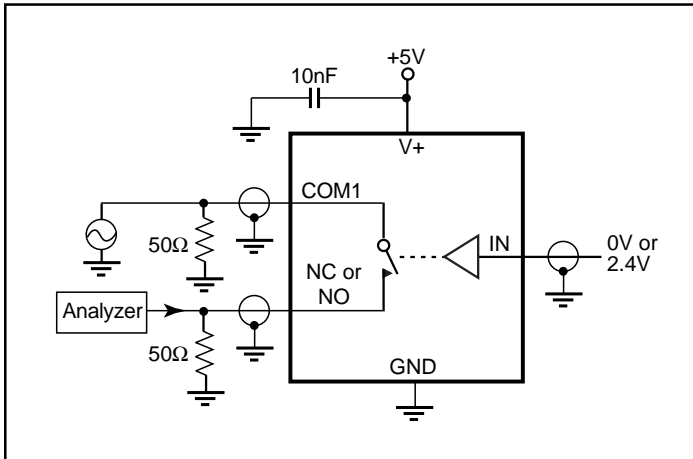

Figure 4. Off Isolation/On-Channel Bandwidth
8. Between any two switches. See Figure 4.
7. Off Isolation = 20log₁₀ [V_{COM} / (V_{NO} or V_{NC})]. See Figure 4.